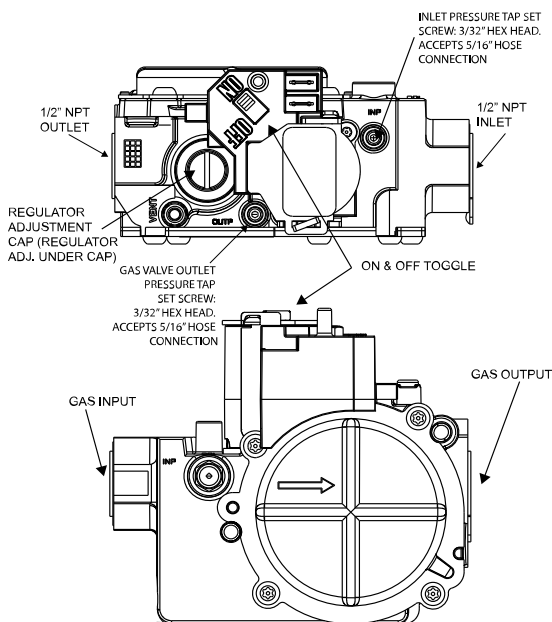

Fig. 64 – Gas Control Valve
- b. Loosen set screw on outlet tower pressure tap no more than one full turn with a 3/32 in. hex wrench. (see Fig. 64)